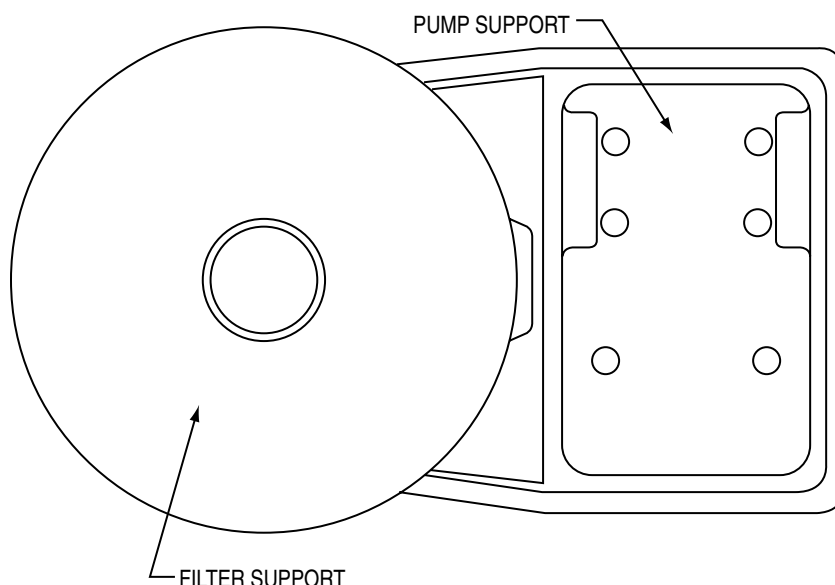

Figure 1.
- b. Place the system support base on the ground close to the final location of the unit. See Figure 1.